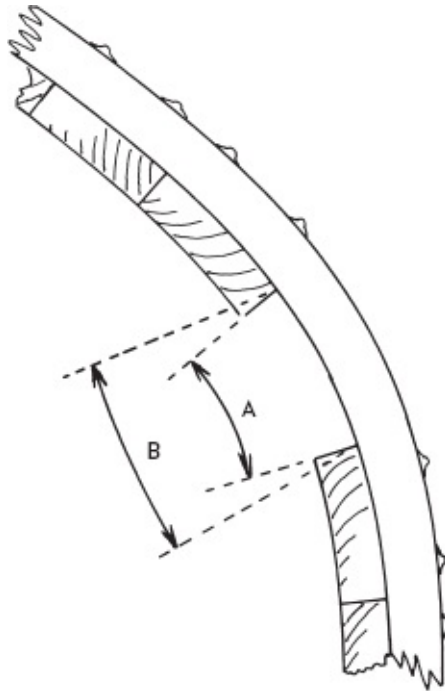

FIGURE 124 } Open bevels. For a new plank to fit, the bevels of the old plank A are changed to the bevels at B so that the hole is wider outwards.
- 3 *Clean up the edges.* Router them or use a bull-nose rabbet plane to shave of the adjacent edges. Make sure they get a draft angle. This is an important step that many are careless with; the fit of the new plank will never be better than what the old plank edges around it allow. The bevels of the adjacent planks must be open so that the new plank has room to fit in (see Figure 124). A router is fine to use if the planking is convex. Nail a guide bar for the router just as when you spline. If the planking is concave, you need a bull-nose rabbet plane or fillister. It is a tool that many have cursed, with bloody knuckles from the ribs and the plane skipping. Here, it is important to have a sharp plane—the blade held short—and patience.